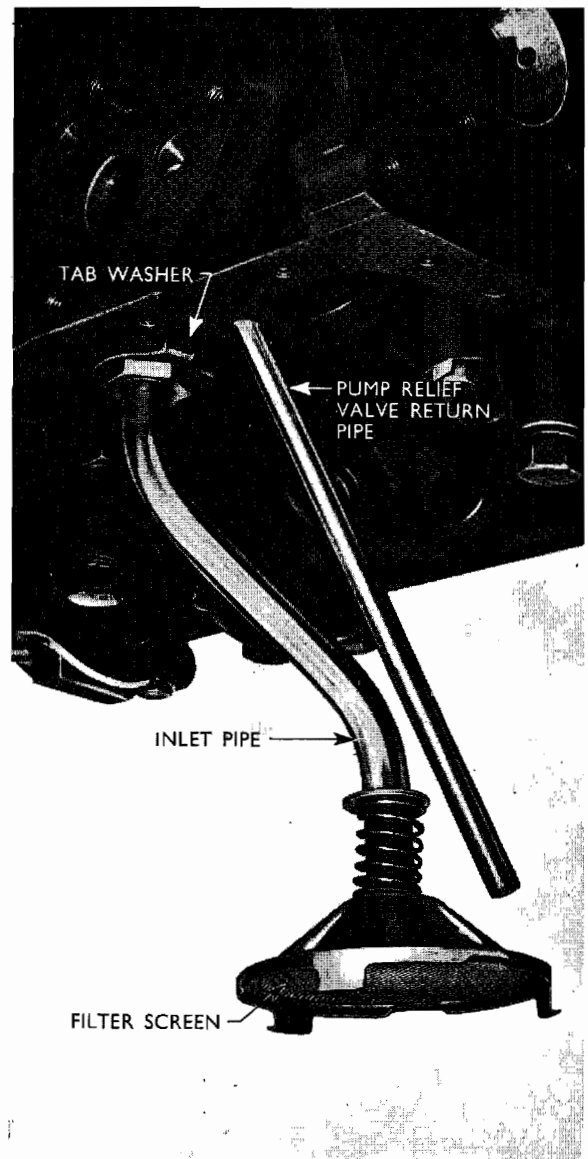

Fig. 22
11. (a) **Replace the oil pump inlet pipe** (if removed). Fit a new tab washer (see Fig. 22) to the union nut, also ensure that this pipe is located so that the filter screen housing will not foul the sump baffles. Securely tighten the union retaining it in place with a tab on the washer.